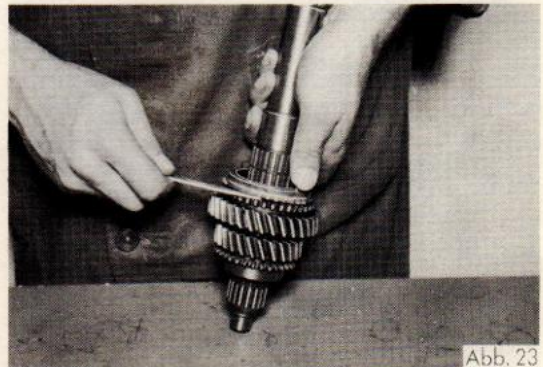

Abb. 23
- Place toothed check ring on cone of 2nd gear pinion. Ascertain clearance between outer face of engaging teeth of 2nd gear pinion and the edge of the toothed check ring (Fig.23). If the clearance is less than .039" (1 m/m), the check ring must be replaced.